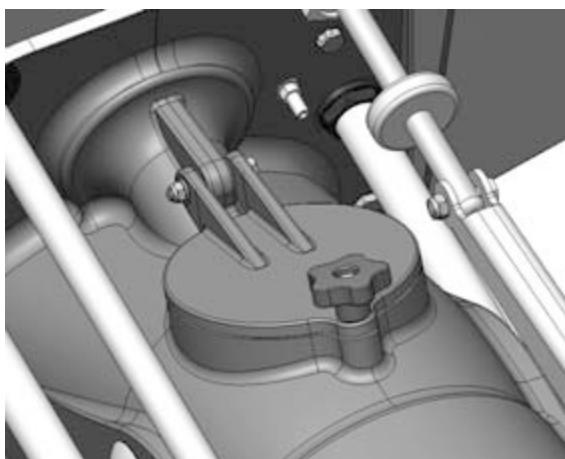

Figure 41. Inspection hatch
1. Open the inspection hatch (Figure 41).